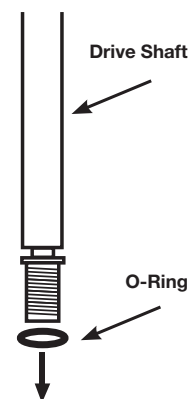

Figure 5
5. Remove O-ring from drive shaft located behind impeller (see Figure 5).